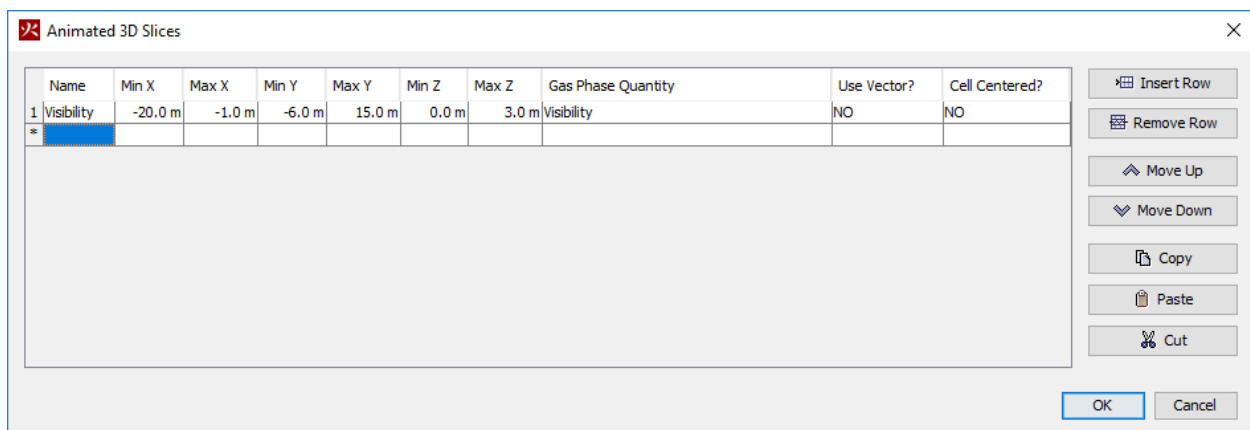

Figure 6: 3D visibility slice
2. Enter slice planes as shown in Figure 6.